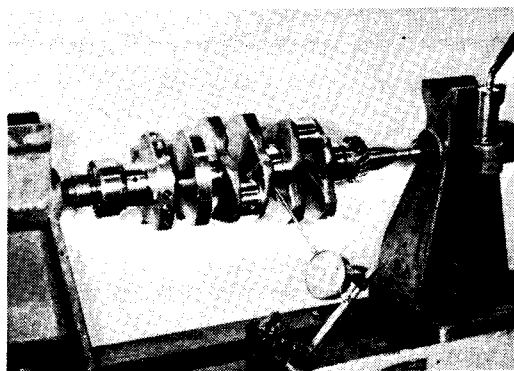

Figure 103
6. Measure the crankshaft for "run-out" (bend). Mount the crankshaft in a pair of V-blocks (or live centers) and use a dial indicator to measure the run-out in the crankshaft (Fig. 103). The maximum allowable crankshaft run-out is 0.05 mm (0.002 in.).